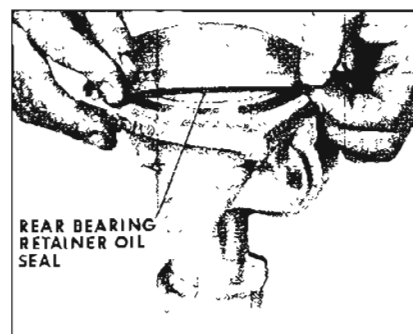

Figure 5-336
1. Install rear bearing retainer oil seal, See Figure 5-336.